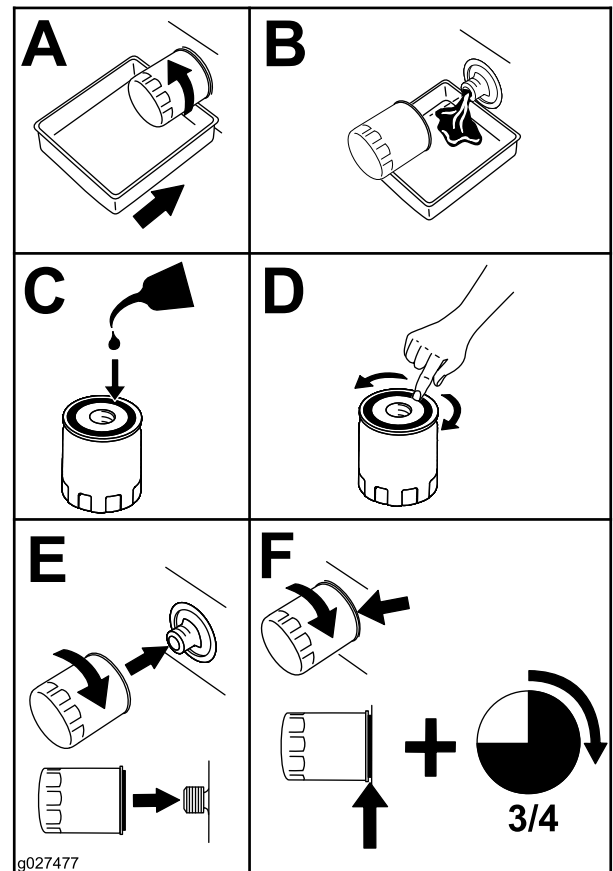

Figure 42
- Change the engine-oil filter (Figure 42).